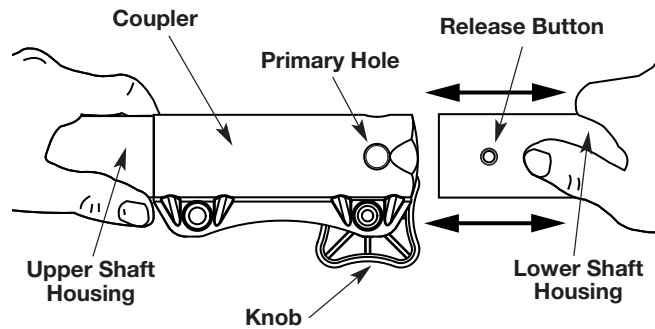

Fig. 2
3. While firmly holding the upper shaft housing, pull the turboblower attachment out of the coupler (Fig. 2).
3. While firmly holding the add-on, push it straight into the coupler (Fig. 2).
CAUTION: Lock the release button in the primary hole (Fig. 2) and securely tighten the knob before operating this unit.